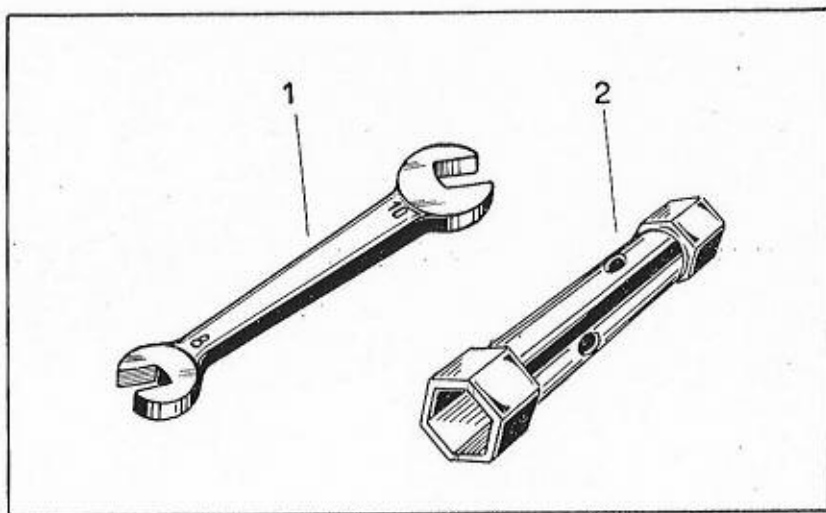

Fig. 2
1 double ended flat spanner (8 and 10 mm.). (1) (Fig. 2)
1 double-ended tubular spanner (14 and 21 mm.). (2) (Fig. 2)